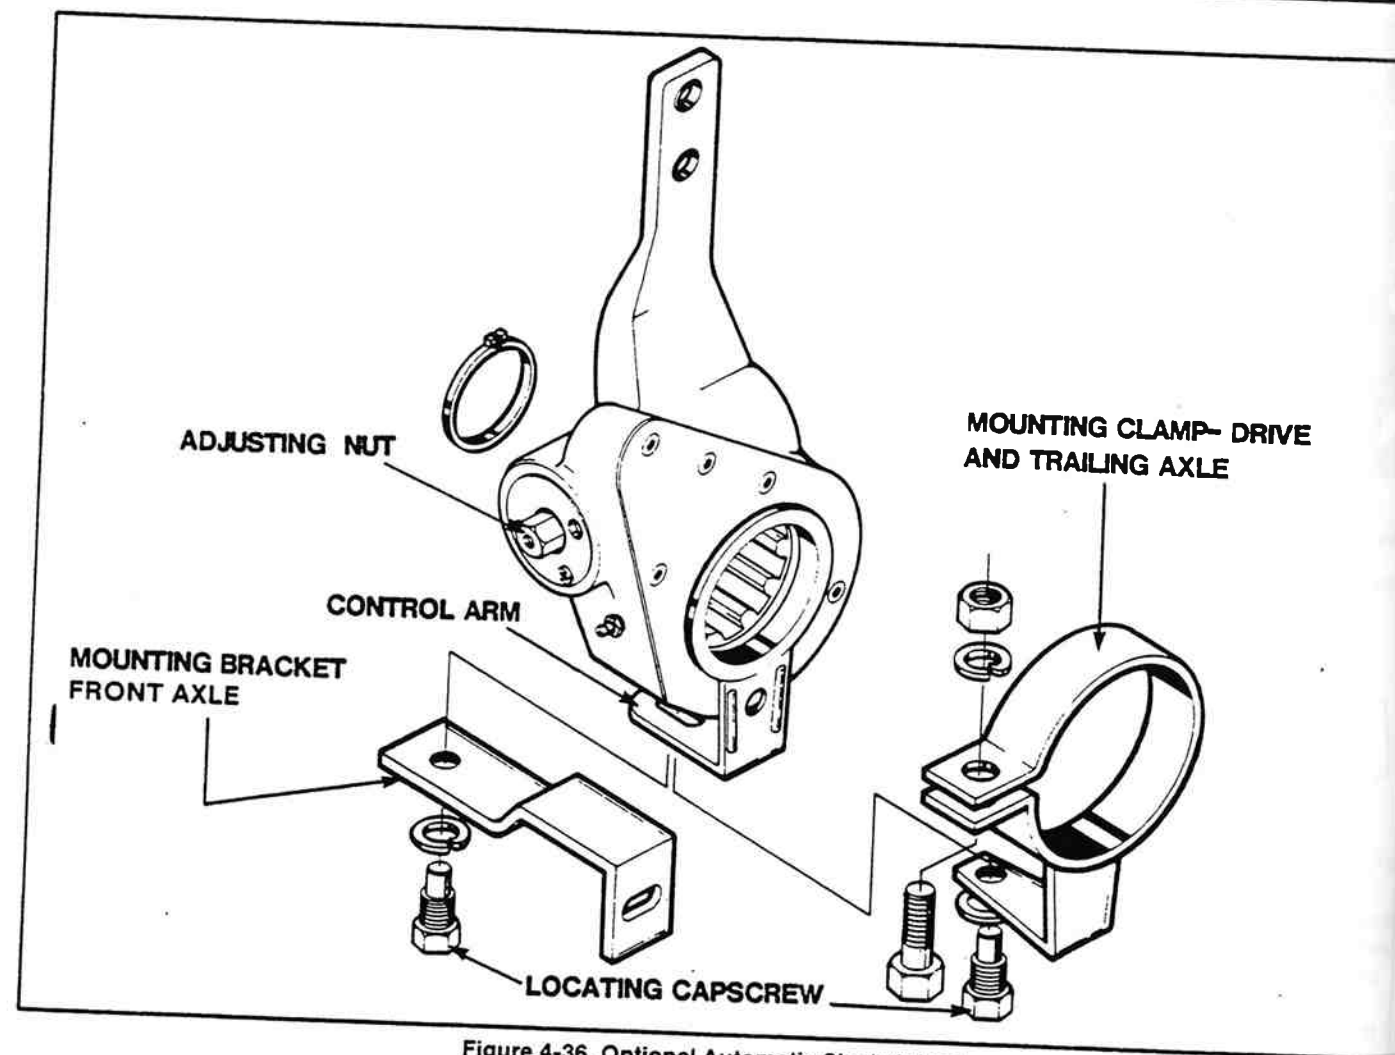

Figure 4-36. Optional Automatic Slack Adjuster.
Automatic slack adjusters are designed to resist wear and to function for longer periods on coaches under severe service conditions. Because of the slack adjuster's importance, the coach comes from the factory with the cover plates welded in place. This ensures that no tampering is done with the internal components of the adjuster. See figures 4-36.
2. Refer to figure 4-36. As required, install mounting clamp or bracket in position to mount the slack adjuster (tighten the mounting bracket if used but do not tighten the mounting clamp).